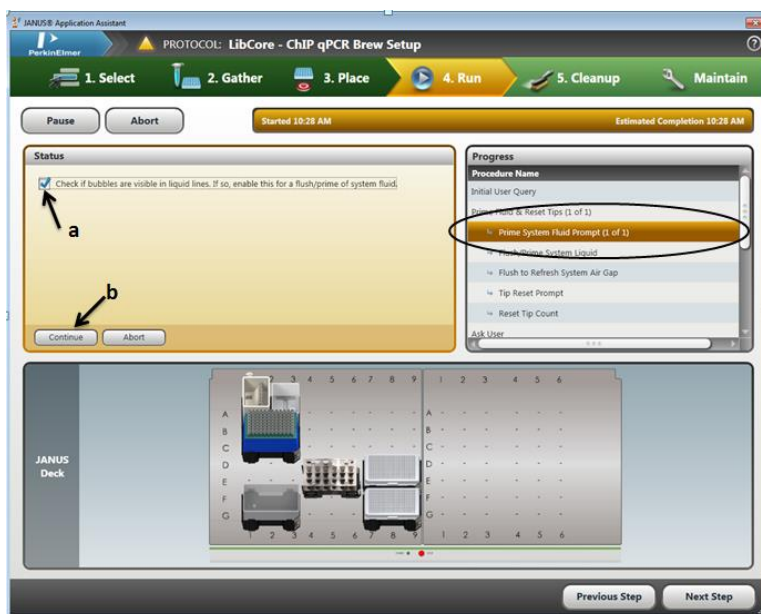

Figure 7: Capillary line bubble elimination step
3.17. The next window will appear as illustrated in Figure 7. If the user is the first person to use the instrument in the day, it is necessary to flush the lines with water and also to ensure no bubbles are present in the capillary lines. Click the "Check if bubbles are visible in liquid
lines. If so, enable this for a flush/prime of system fluid (a) and ensure the 'Prime System Fluid Prompt' is highlighted. Note the arrows in Figure 7 as indicators of the correct steps. Click 'Continue' icon once ready (b).